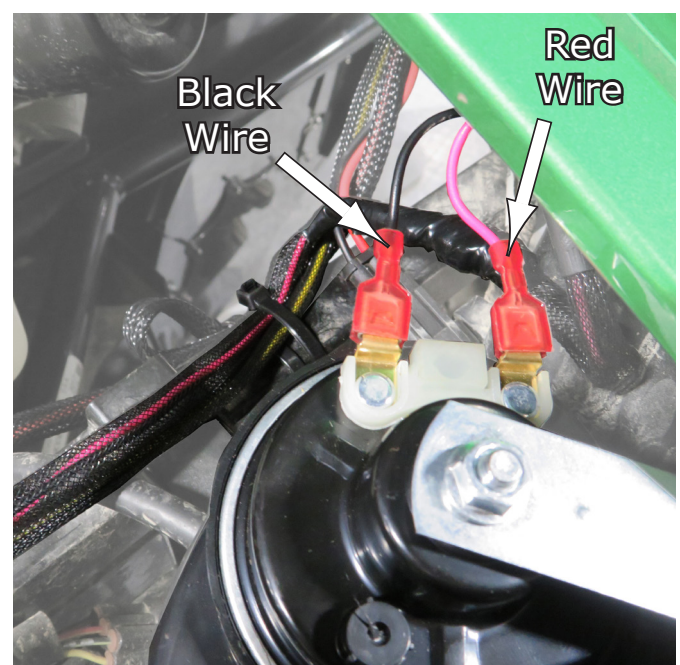

Fig.12
13. After the Horn is installed, now hook up the Red and Black wires from the harness to the tabs as shown in **Fig.12**.